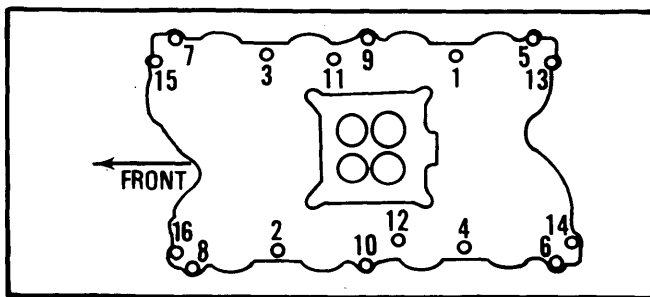

Fig. 1 Tightening Sequence for Intake Manifold
3) Lower intake manifold on engine and check for correct positioning of gaskets and seals before installing attaching bolts and nuts. Install bolts and nuts, then tighten in sequence shown in Fig. 1.